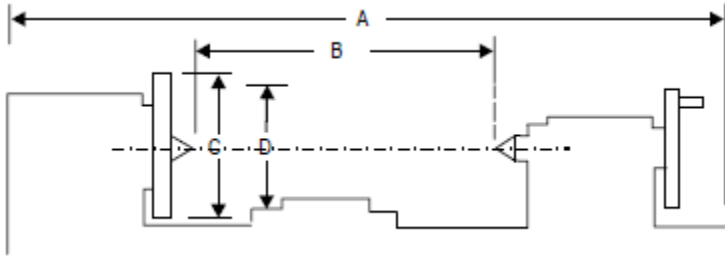

Fig. 7 Specifications of a lathe
- Fig.7 illustrates the elements involved in specifications of a lathe. The following data also contributes to specify a common lathe machine.